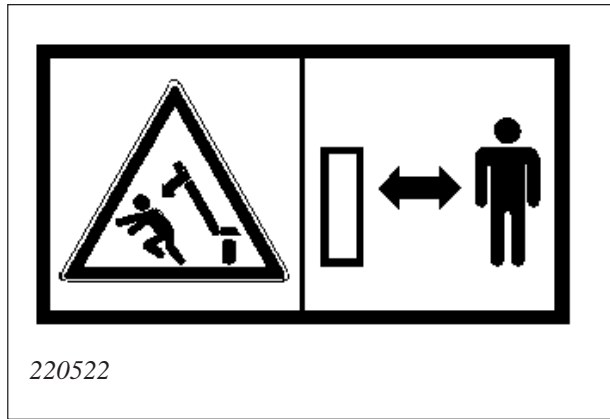

Fig. 19
**Warning sign 220522 (Fig. 19).** Squeeze risk. Keep distance from elevator. It can move without notice.